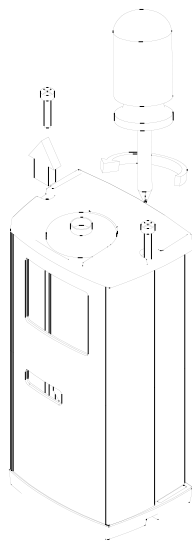

Figure 4a
1. Unscrew the two (2) 3x16 A4-screws on the top cover of the SATEL-321 casing (see Figure 4a).